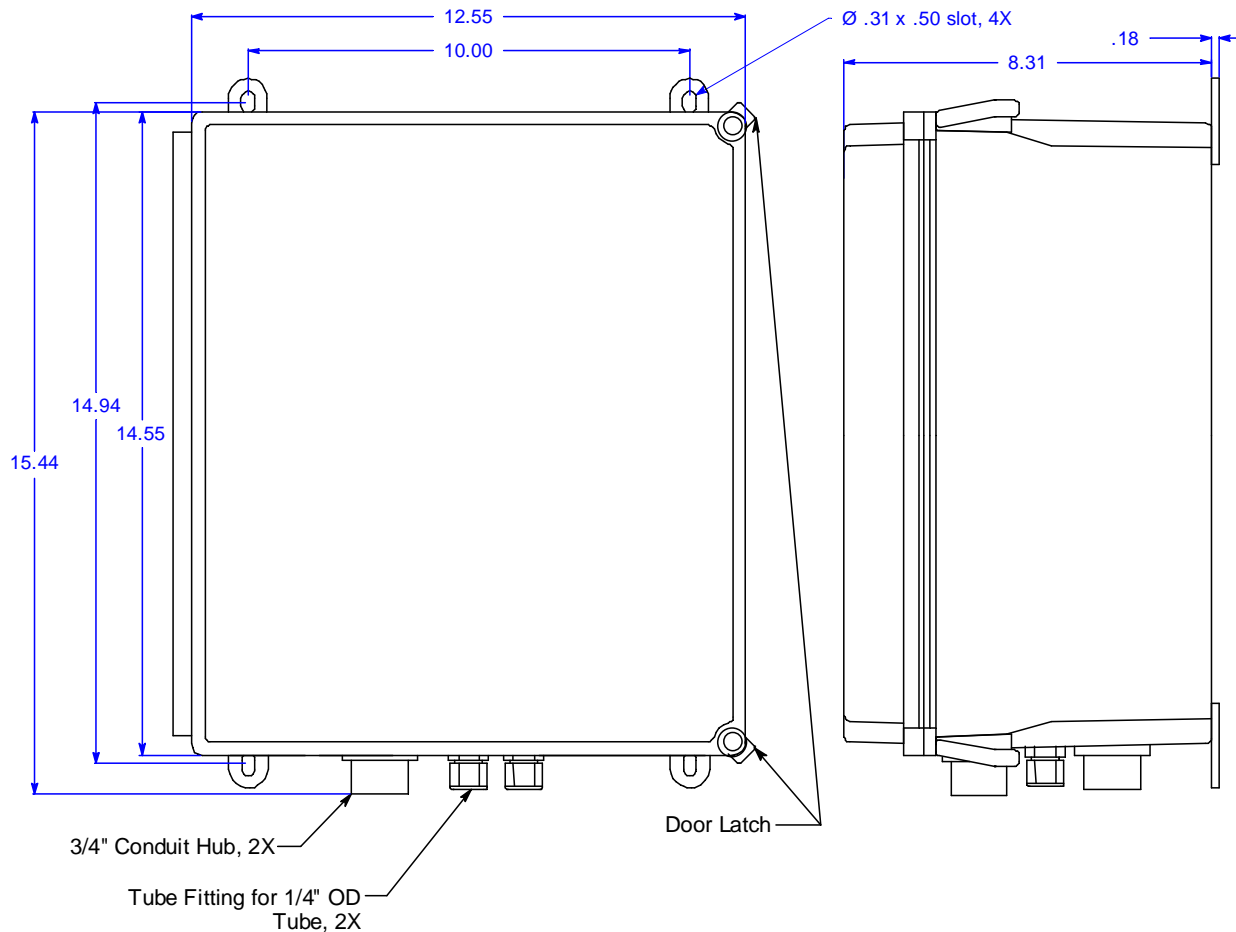

Figure 5: Outline and Mounting Dimensions
3. Slightly loosen the screw that secures one of the mounting feet to the housing, then rotate the mounting foot 180 degrees (see Figure 5).